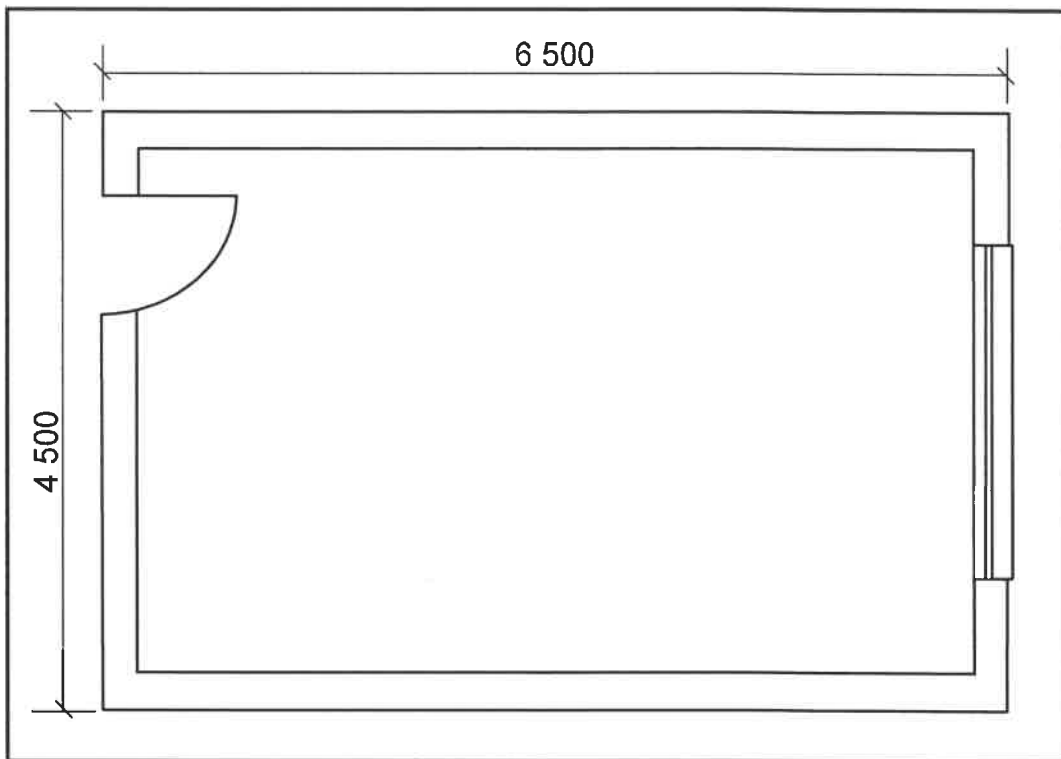

FIGURE 6.6
6.6 FIGURE 6.6 below shows the floor plan of a storeroom in a construction workshop. Study the floor plan and answer the questions that follow.